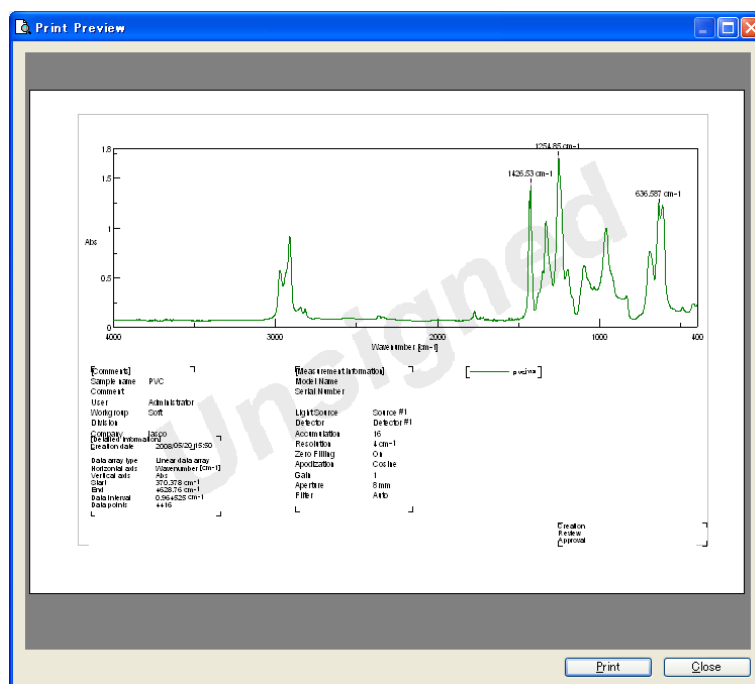

Figure 2.10 [Print Preview] dialog box
1) Select [File] – [Print Preview] to display the [Print Preview] dialog box (Fig. 2.10).